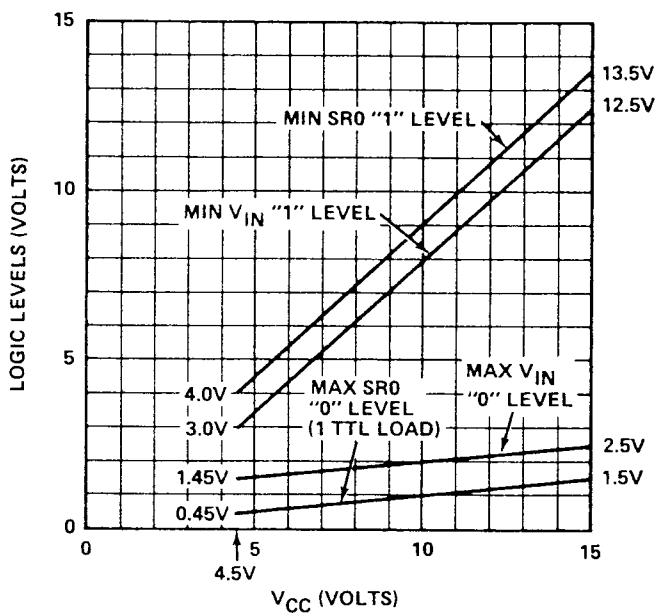

Figure 3. Logic Levels
4. Threshold levels shown are for TTL logic levels. For different  $V_{CC}$  levels typical in CMOS systems, see Figure 3.
4. Threshold levels shown are for TTL logic levels. For different VCC levels typical for CMOS systems, see Figure 3.